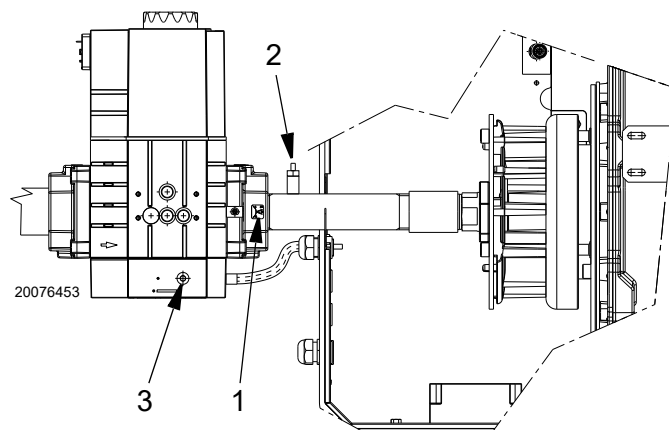

Fig. 168
Turn the screw V1 of the gas valve lightly towards the "+" sign (Fig. 168 on page 57).
- Turn the screw V1 towards the "+" sign (Fig. 168 on page 57).
- Check the appearance of the flame, if possible, or the value of the CO and CO2 to understand whether the burner has been sufficiently calibrated (first maximum calibration). If necessary use the screw V2 of the gas valve (turn towards the "+" sign to increase the gas, towards the "-" sign to decrease the gas) (Fig. 168 on page 57).
- Check the appearance of the flame, if possible, or the value of the CO and CO2 to understand whether the burner has been sufficiently calibrated (first maximum calibration). If necessary use the screw V1 of the gas valve (turn towards the "+" sign to increase the gas, towards the "-" sign to decrease the gas) (Fig. 168 on page 57).
- to increase the gas delivery and the CO2: turn the V1 screw towards the "+" sign (Fig. 168);
- to reduce the gas delivery and the CO2: turn the V1 screw towards the "-" sign (Fig. 168);.
Key (Fig. 168)